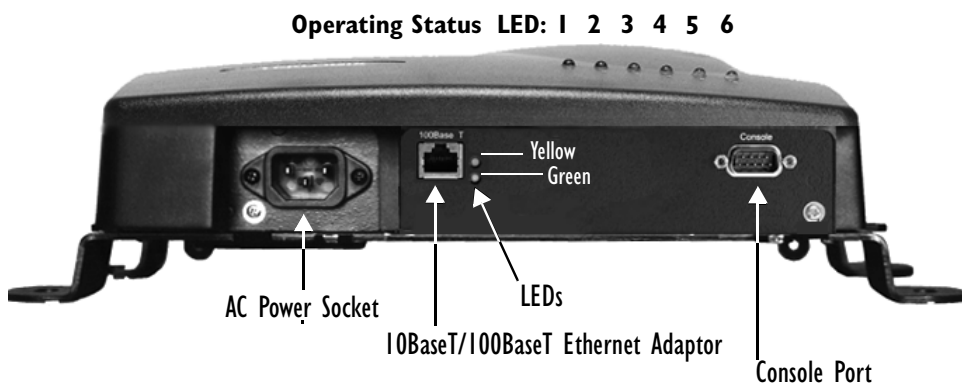
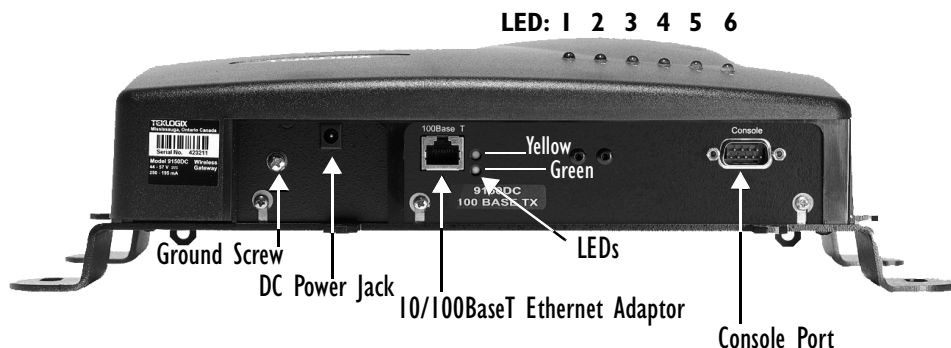

Figure 2.2 9150T Ethernet LED Locations*
Figure 2.3 The 9150DC Wireless Gateway
Figure 2.2 below shows the locations of the port and power connectors on the base of the 9150T [100BaseT Ethernet]; for the 9150DC, see Figure 2.3 on page 23). The port pinouts are described in Appendix B: “Port Pinouts And Cable Diagrams”.
**Note: The location of the LEDs is the same on the 9150DC (see Figure 2.3 on page 23).*
See Figure 2.2 on page 21 for the connector locations. Since these ports are auto-selecting, jumper or configuration settings are not required. The maximum packet size supported over the network is **1500 bytes**. This parameter is not set at the 9150, but should be set at the host. For a description of port pinouts, please refer to Appendix B: “Port Pinouts And Cable Diagrams”.
The 9150DC may also be powered via the Auxiliary Supply (48 V DC) power jack, which is adjacent to the ethernet RJ-45 connector (see Figure 2.3). For a description of RJ-45 port pinouts, refer to Appendix B: “Port Pinouts And Cable Diagrams”.
The high-performance 9150T (see page 22 for details) and DC-powered 9150DC (see page 22 for details) both have six status indicators on the front of the enclosure, and an additional two status indicators on the base of the enclosure next to the RJ-45 connector port, as shown in Figure 2.2 on page 21. The numbered and coloured LEDs on the front of the unit indicate the operating status for each port, as described in Table 2.2. The coloured LEDs beside the RJ-45 port indicate the operating status of the resident 10BaseT/100BaseT card, as described in Table 2.3 on page 28.
The terminal is connected to the port labelled "Console" on the 9150 (see Figure 2.2 on page 21). This port is normally set to operate at 19,200 b/s, with 8 bits, 1 stop bit, and no parity. To comply with Part 15 of the FCC rules for a Class B computing device, only the cable supplied (Part no. 19387) should be used.